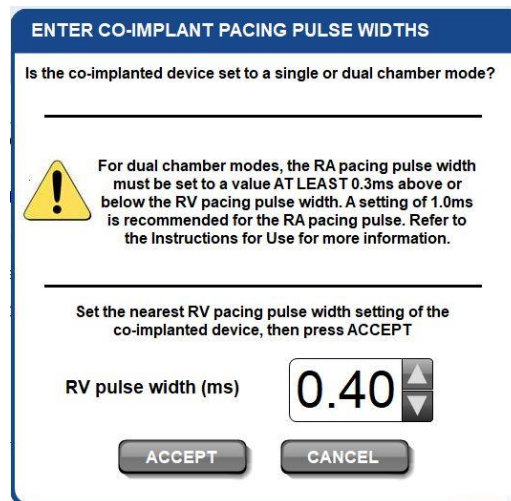

Figure 13: Enter Co-Implant Pacing Pulse Widths dialog box
3. Select the [PROCEED] button to confirm that the co-implant is providing RV pacing. The Enter Co-Implant Pacing Pulse Widths dialog box (Figure 13) will appear for the operator to specify the RV pacing pulse widths being used. Select the scroll-up and scroll-down buttons to enter the RV pacing pulse width. RV pulse width value selections may not exactly match the resolution value of the co-implant. In this case select the value that is the closest to the actual programmed value in the co-implant. Select [ACCEPT] to use the pulse width value and begin the initialization. Select [CANCEL] to start the process from the beginning.